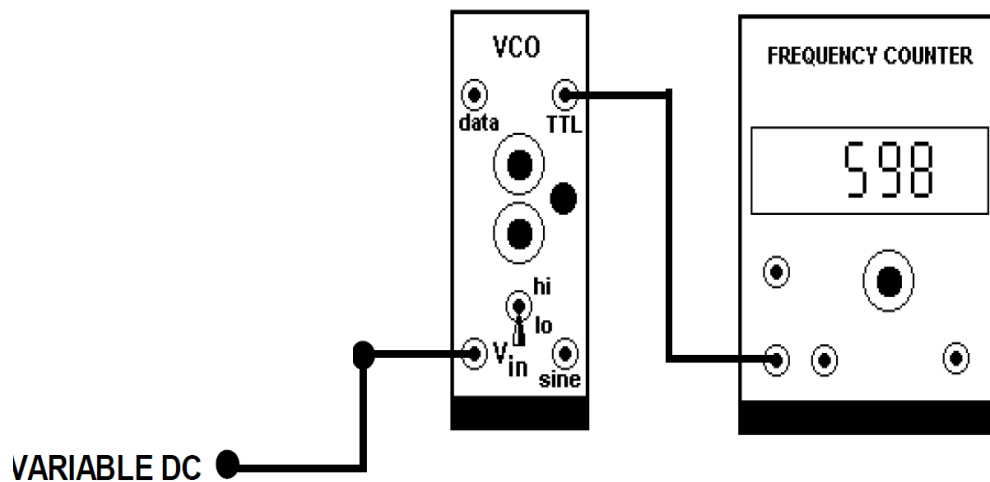

Figure 6: Task 6 — Voltage controlled oscillator
1. Connect the circuit according to Figure 6. Set on-board switch of the VCO to LO range.